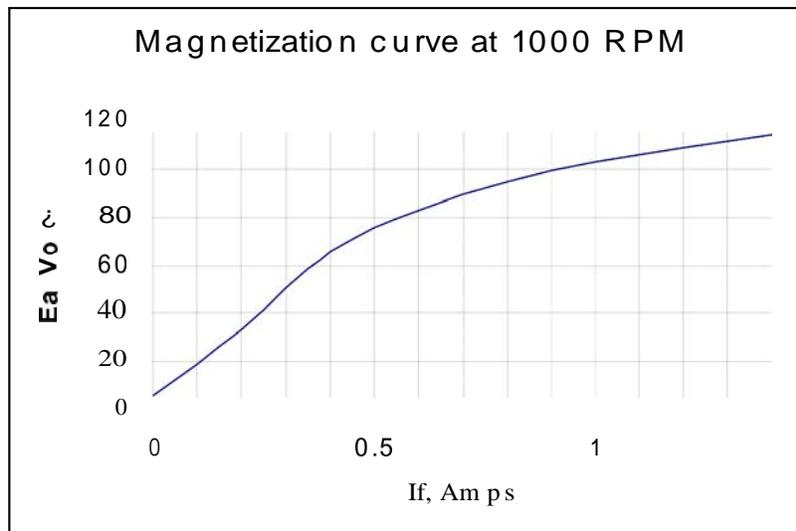

FIGURE 11.7
1. A 12 kW, 100 V, 1000 RPM dc shunt motor has armature resistance $R_A = 0.1 \Omega$, shunt field winding resistance $R_{shunt} = 80 \Omega$, and $N_f = 1200$ turns per pole. The magnetization characteristic at 1000 rpm is shown in Figure 11.7. The machine is operated as a shunt dc motor. Calculate the rotor speed when the shunt resistance is increased to 100Ω at rated voltage and nominal load. The brushes drop is 6V.